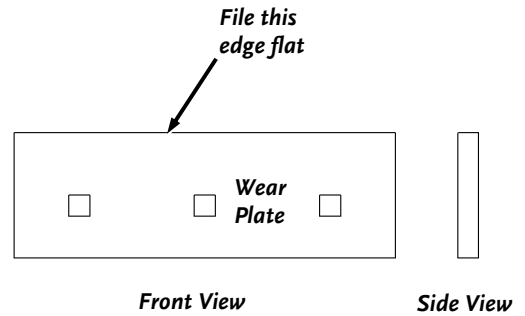

Figure 34
2. File the edge of the Wear Plate to take out any nicks and to square rounded edges (**Figure 34**).
1. Remove the Hand Knob from the top of the Belt Guard and remove the Guard (**Figure 34**).